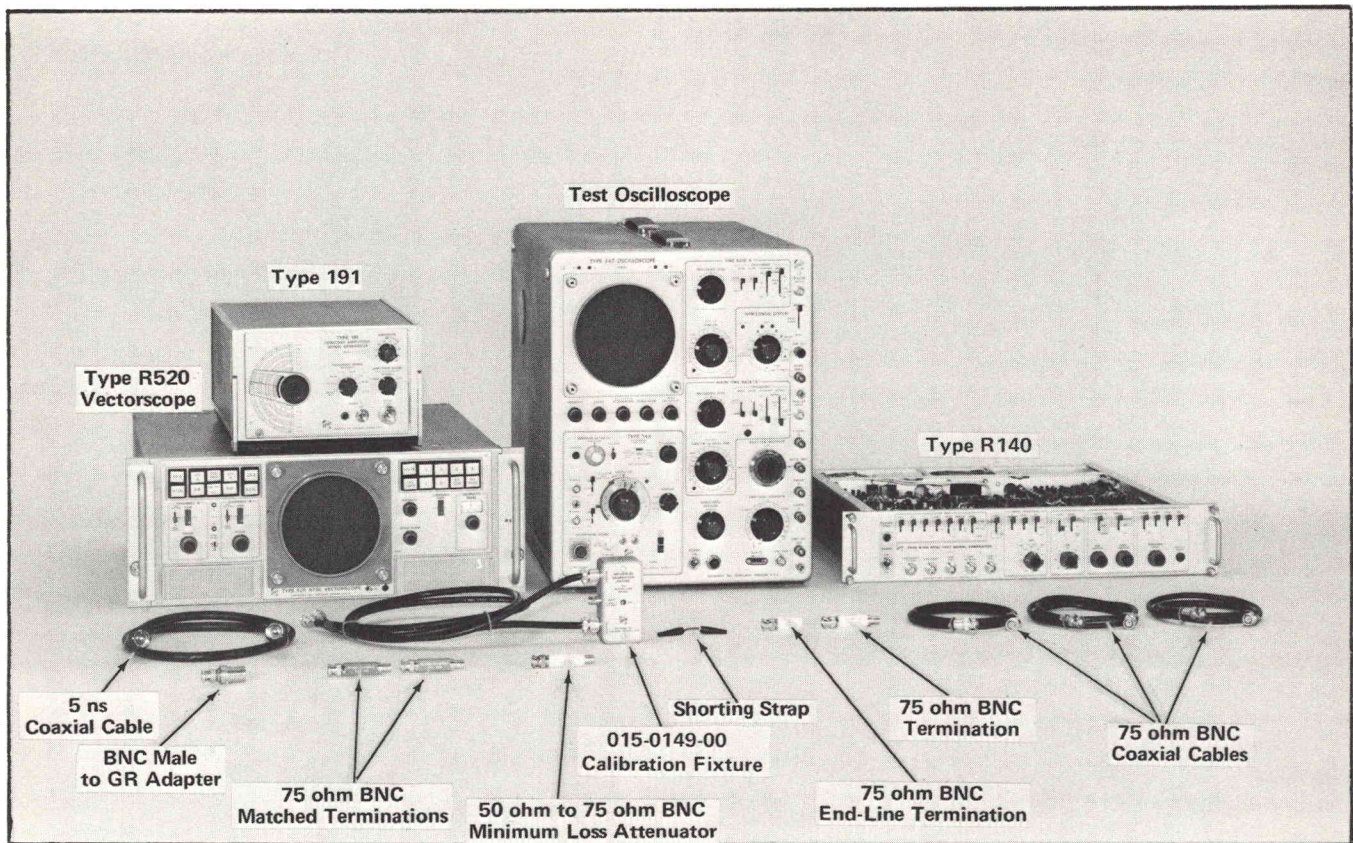

Fig. 5-48. Test equipment required for steps 43 through 46.
- a. Test equipment is shown in Fig. 5-48.